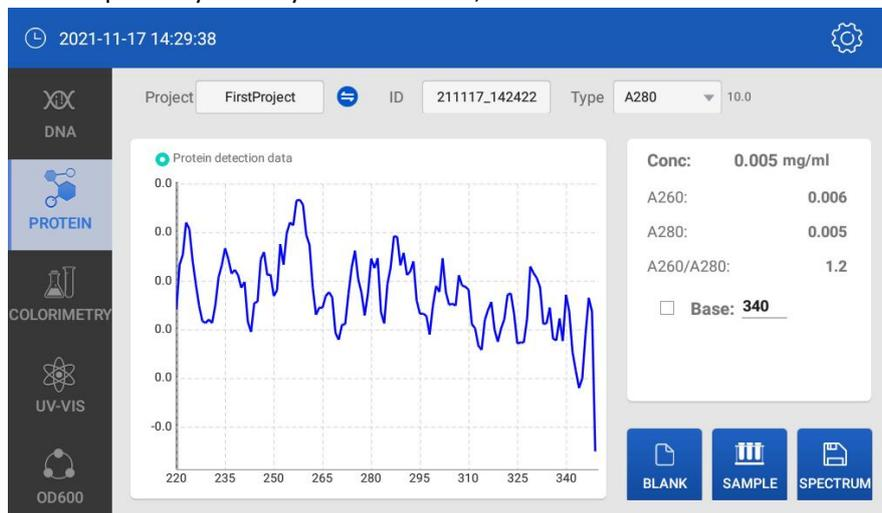
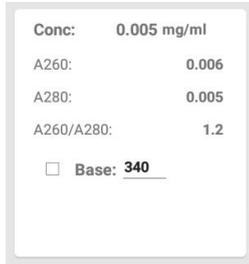

Fig 4.10 Protein detection result
Fig 4.11 Protein result
(2) Operation steps:
- ① Set the project name and sample No.:
- ② Blank with TE buffer: add 2ul TE buffer on the lower pedestal, lay down the upper pedestal and start to “Blank”.
- ③ Clean the pedestals by a dust free cloth after blank.
- ④ Add 2ul sample onto the lower pedestal, lay down the upper pedestal, and press the “sample” button to measure. See Fig 4.10
(3) As Fig 4.11 (From Fig 4.10), the data result as below
(1) Operation steps:
- ① Set the project name and sample No., colorimetry type, and curve,